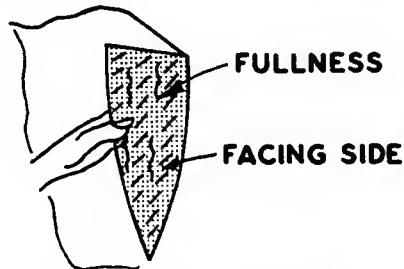

Fig. 182. Getting fullness in the lapel.
- C. Ease the fullness with your fingers, making several rows of diagonal basting stitches until you reach the point of the lapel (Fig. 182). The figure shows the left lapel. Reverse the procedure for the right lapel.